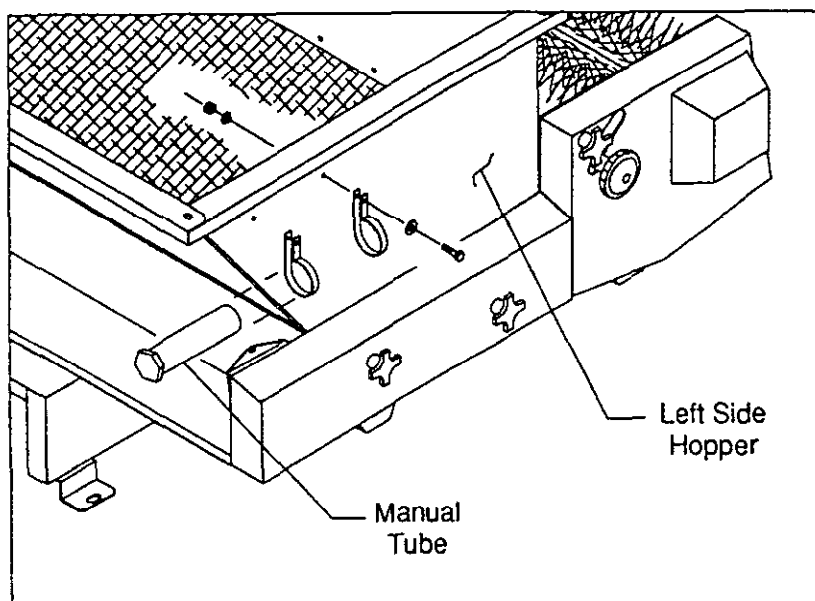

Figure 4
9. Attach the operator's manual tube to the left hand side of hopper as shown in Fig. 4. Secure bolts.